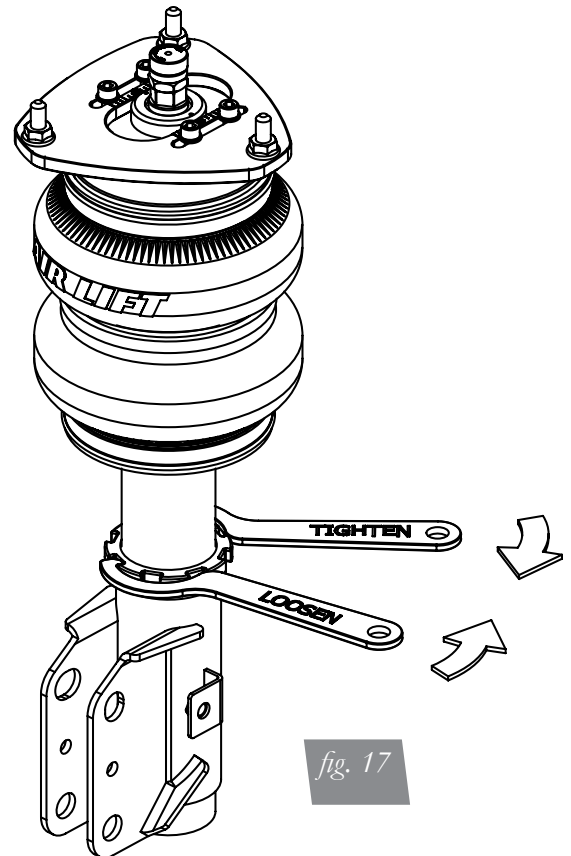

fig. 17
3. Using the supplied spanner wrench, loosen the lower locking collar. (fig. 17)